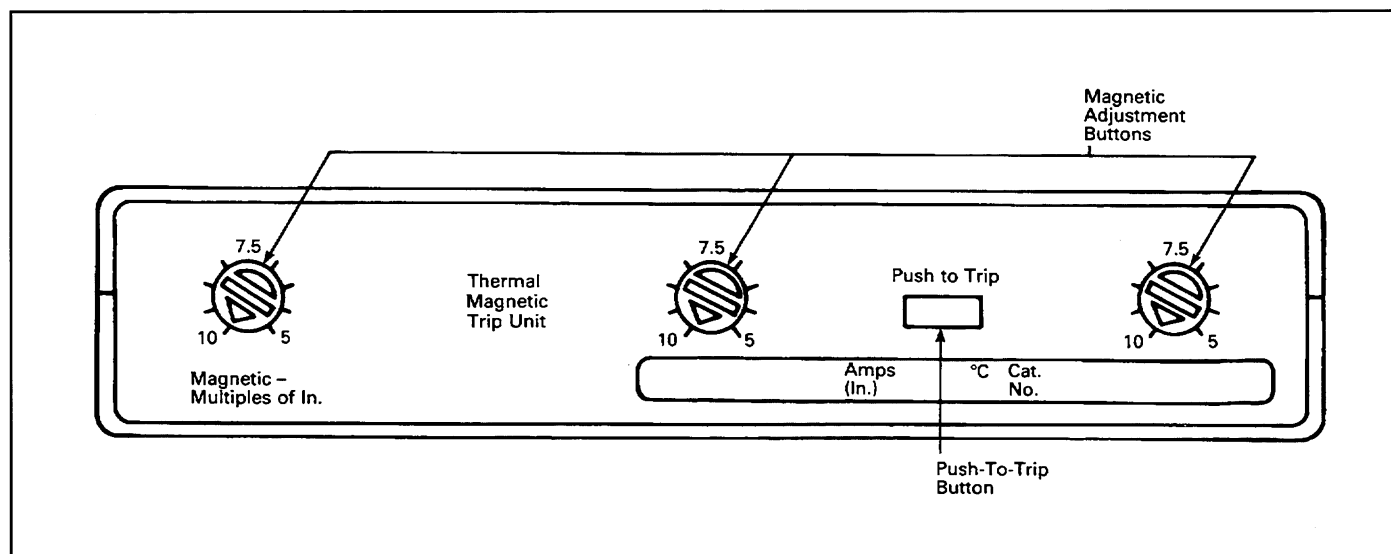

Fig. 2-2 Trip Unit Magnetic Adjustment Buttons
Magnetic Trip: The magnetic trip on each pole may be adjusted by turning the adjustment button with a screwdriver (see Fig. 2-2). Trip units are shipped from the factory with the buttons set in the high position. In the magnetic trip region (above $6 \times I_n$), the trip current levels can be up to approximately 40 percent higher for DC than for AC, depending on the rating.
- 2-10. Press PUSH-TO-TRIP button with a small screwdriver to check manual tripping of the circuit breaker (see Fig. 2-2).
The magnetic element of each pole of the trip unit can be adjusted by rotating the adjustment buttons on the front face of the trip unit with a screwdriver. The buttons have several settings as indicated on the nameplate with values in multiples of the trip unit ampere rating (I_n) as shown in Fig. 2-2.
- 2-11. Adjust magnetic pick-up settings as required (see Fig. 2-2).